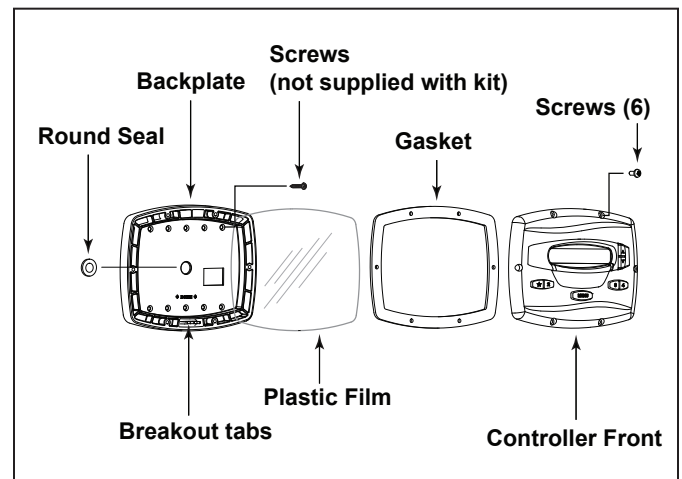

Figure 3. Controller Components
The ePump controller assembly (See Figure 3) contains the following components:
3. Drill out the plastic film covering the backplate screw holes. See Figure 3.
- A minimum of two (2) fasteners (installer supplied) are required when installing to a flat wall to hold the controller securely.
- The backplate has ten (10) mounting holes to choose from. Only drill out the plastic film from the holes to be used. See Figure 3.
- At the bottom of the backplate, cut the two (2) tabs out with an appropriate tool, such as a carton cutter or an exacto knife, and route the cable through the open channel.
- Attach the four (4) wires in the RS-485 cable to the RS-485 connector. Make sure the colors match the positions on the connector. See Figure 3.
For the ePump, the 4-position dip switch is located at the rear of the pump, as shown in Figure 3.